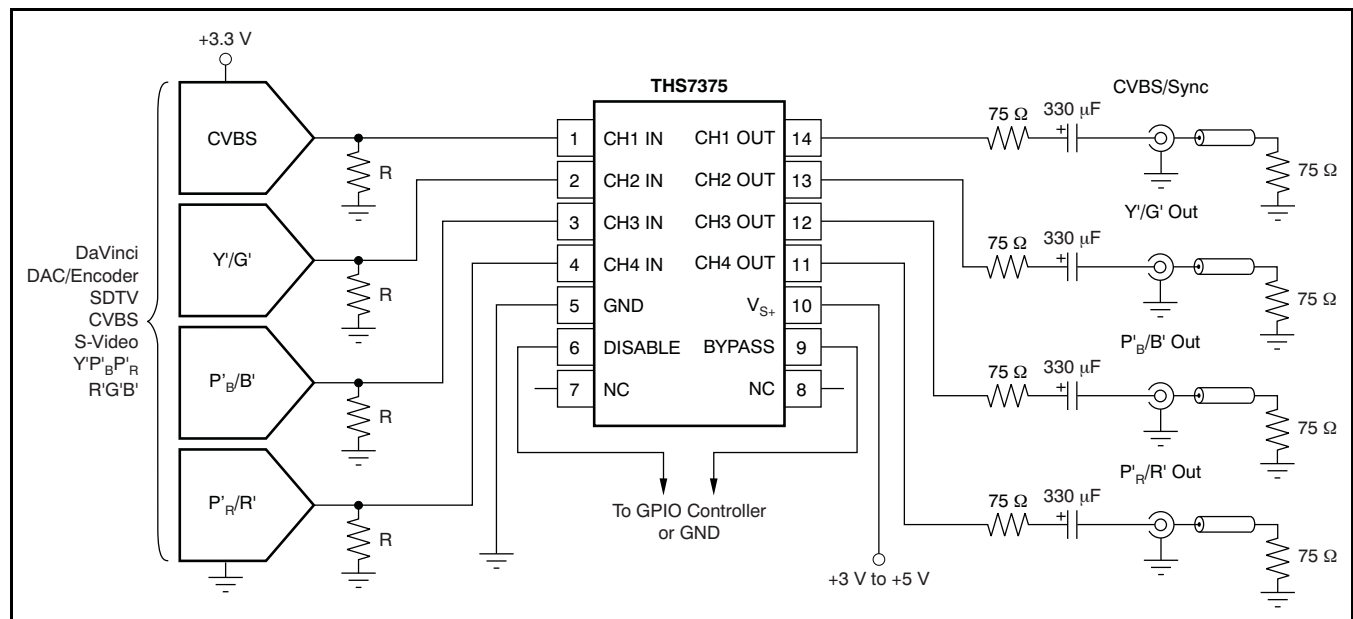

Figure 48. Typical SDTV CVBS/ $Y'P'_BP'_R$ Inputs from DC-Coupled Encoder/DAC with AC-Coupled Line Driving
A typical application circuit that uses the THS7375 as a video buffer is shown in Figure 48. It shows a DAC or encoder driving the input channels of the THS7375. One channel is a composite video (CVBS) channel of a standard definition (SD) video system. The other channels are the component video $Y'P'_BP'_R$ (sometimes labeled $Y'U'V'$ or incorrectly labeled $Y'C'_B'C'_R$) signals of a 480i or 576i system. These channels could easily be the S-Video Y'/C' channels or the $R'G'B'$ channels of a SCART system.